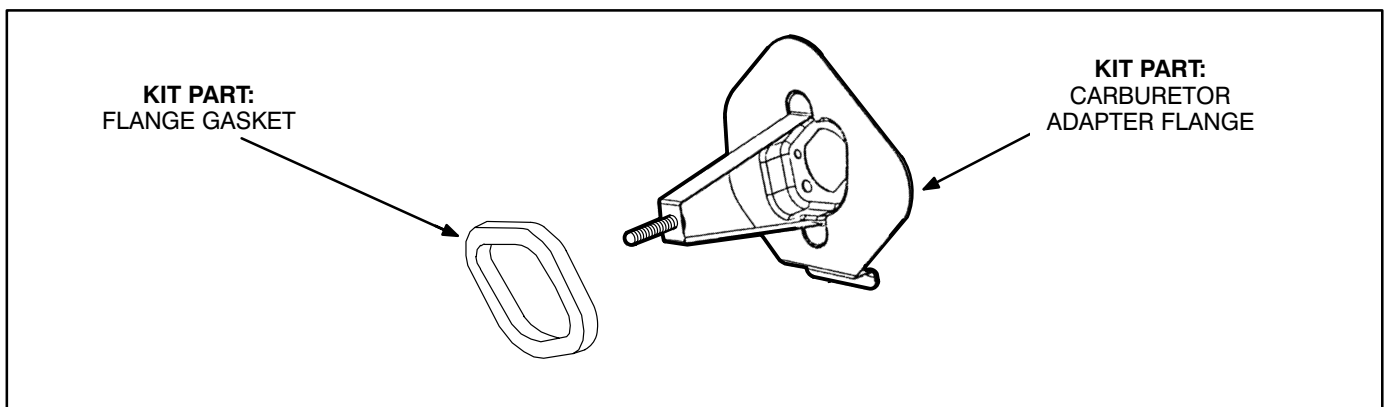

FIGURE 2. CARBURETOR ADAPTER ASSEMBLY (KIT 146-0743 only)
2. Assemble the flange gasket to the carburetor adapter flange as shown in Figure 2 (Kit 146-0743 only).